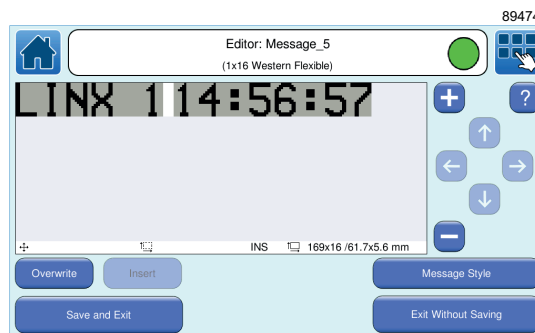

Figure 92. Message Editor Screen
- 2 To insert a new field in the message editor screen, touch the **Insert** button as shown in Figure 92 then touch the desired position on a line. Now select the required field type (for example, Date field) by choosing from **Select Field Type** screen.